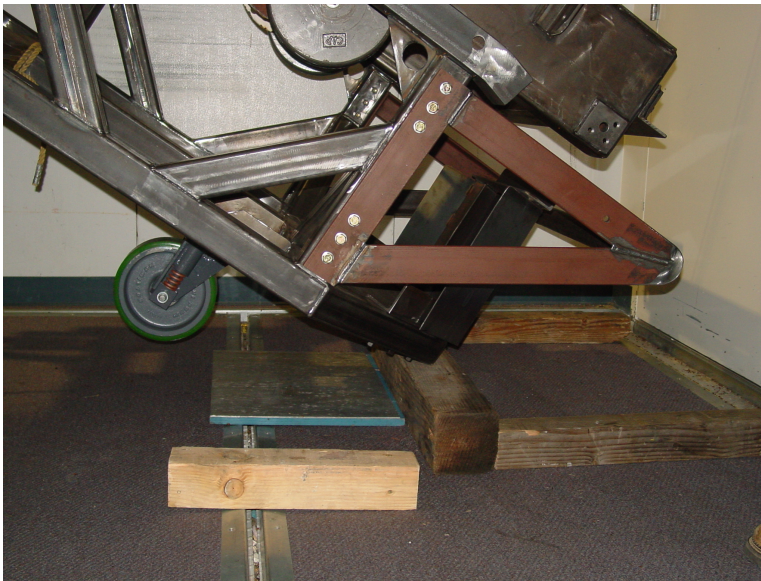

Figure 6
13. Place a 6 x 6 x 2 board centered 36 inches from the wall, with one 2ft. x 2ft x ½ inch steel plate next to it. Place two 3 x 3 x 2 boards at 90 degrees from the 6 x 6 board and between the board and the wall. This will act to help the turning points for the instrument. See Figure 6.
28. Place blocks against wall as shown in figure 6.
31. Rotate the instrument vertically as shown in figure 6.